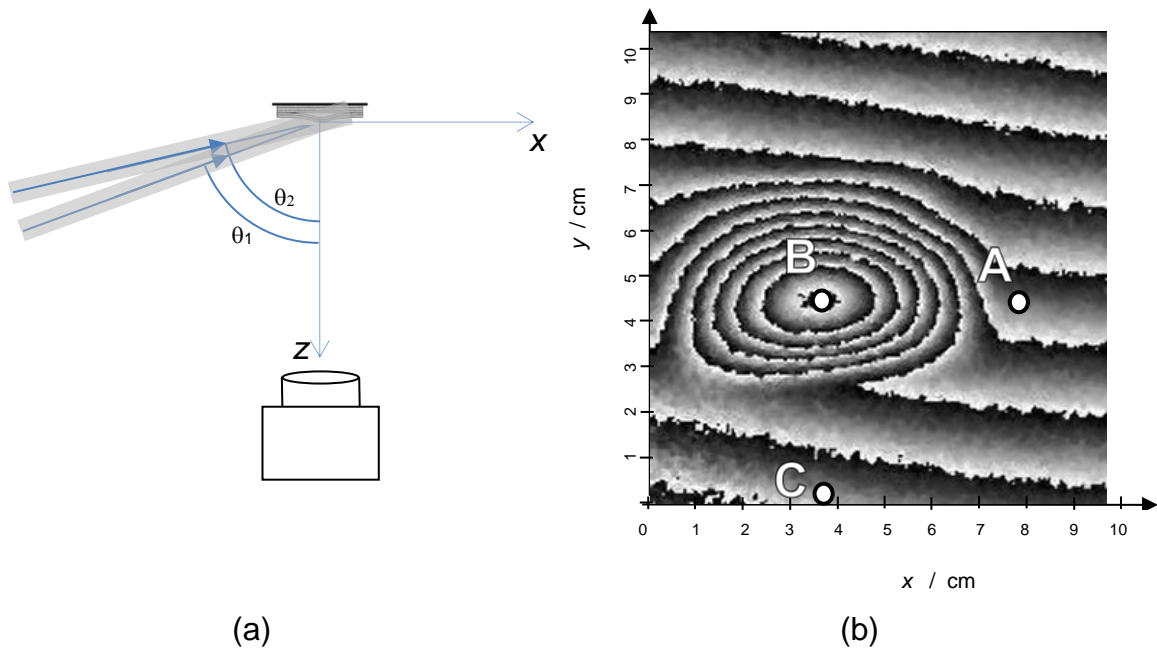

Figure Q4.
4. In 1970, J. A. Leendertz proposed an interesting configuration to reduce the sensitivity of out-of-plane speckle interferometers. Both illumination beams are on the same side of the z-axis and inclined at angles θ_1 and θ_2 to the observation direction, as shown in Figure Q4(a).
Figure Q4(b) shows a wrapped phase map obtained with the interferometer in Fig. Q4(a) (page 7) using a laser with wavelength $\lambda = 532 \text{ nm}$ and illumination angles $\theta_1 = 80^\circ$ and $\theta_2 = 85^\circ$. It corresponds to a composite panel with an internal delamination expanding due to a change in ambient pressure. The straight parallel fringes correspond to a rigid body tilt of the composite plate.